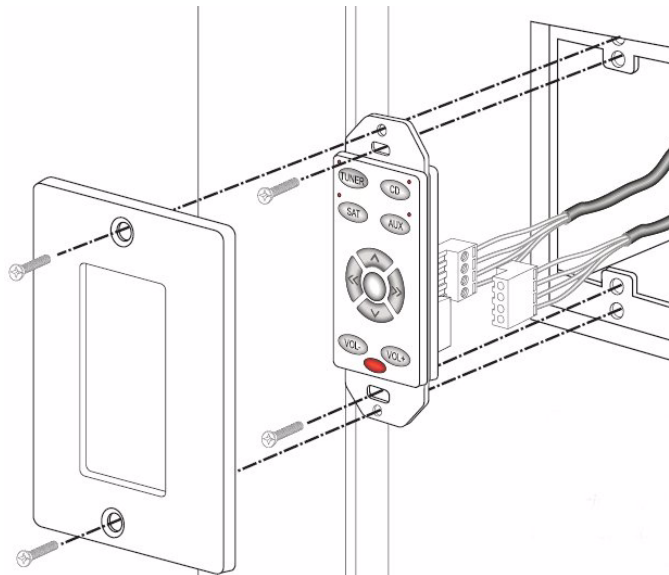

FIG. 14 Installation into the Wall Cavity
6. After the keypad is secure, proceed with the installation of the decorative trim panel (FIG. 14).